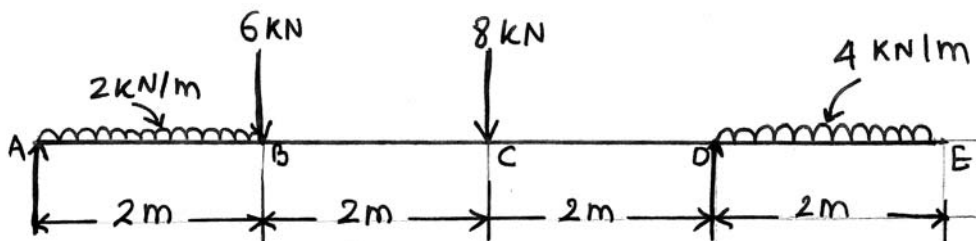

Fig. No. 2
- d) Find the support reaction for the following sketch (refer fig. No. 2) and draw shear force and bending moment diagram. Find the point of contra flexure if any.